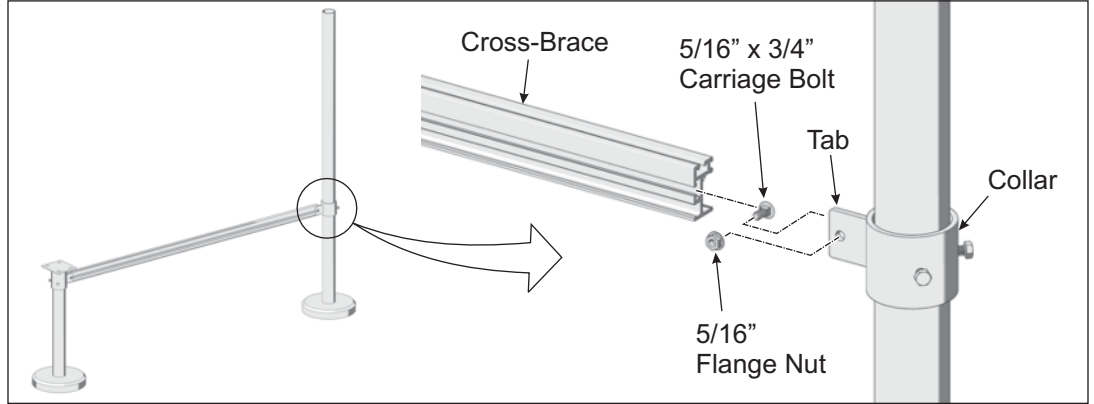

Figure 3-2: Attaching N-S Cross-Bracing to North Collar
- B. Insert the carriage bolt into the Tab mounting hole and secure with 5/16" flange nut. For now, finger tighten only. (See Figure 3-2)